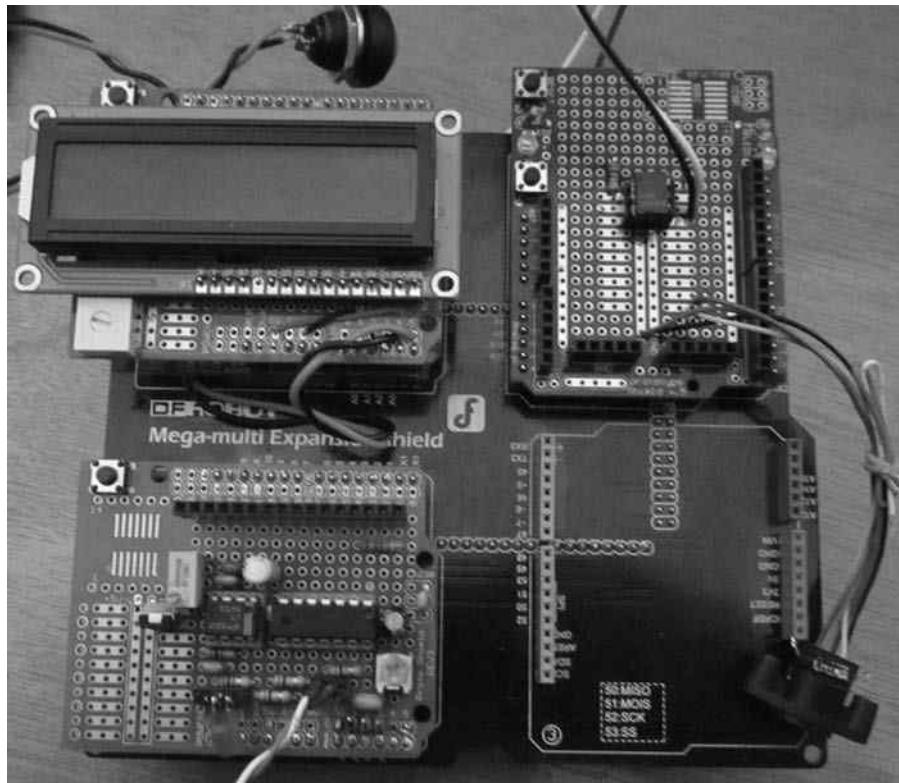

FIGURE 10-2 The three project shields on the expansion board.
The shield used for the PS2 keyer is almost unchanged. We did move the PS2 socket for the keyboard from the shield itself to a case-mounted socket. Because there are no special pin requirements you are free to place the shield at either of the two remaining positions. Figure 10-2 shows that we opted for the North-East position (4) on the expansion board. You can see the off-board PS2 socket on the right side of Figure 10-2. The two wires leading away from the same shield go to the jack for the keyed circuit.
The RTC shield is in the upper-left corner of Figure 10-2 and holds the LCD display for both the RTC and the CW decoder. You can also see the pushbutton switch that is used to reset the station ID timer connected to the RTC shield. In the same figure, the bottom-left corner is occupied by the CW decoder shield with its LCD display removed. The two wires from the shield are ultimately connected to the speaker of the transceiver. The 2560 μ C board is “under” the expansion board. As you can see, the S-E position of the expansion board is empty. If you have some other project that you would like to add to the integrated project, you could use that position.